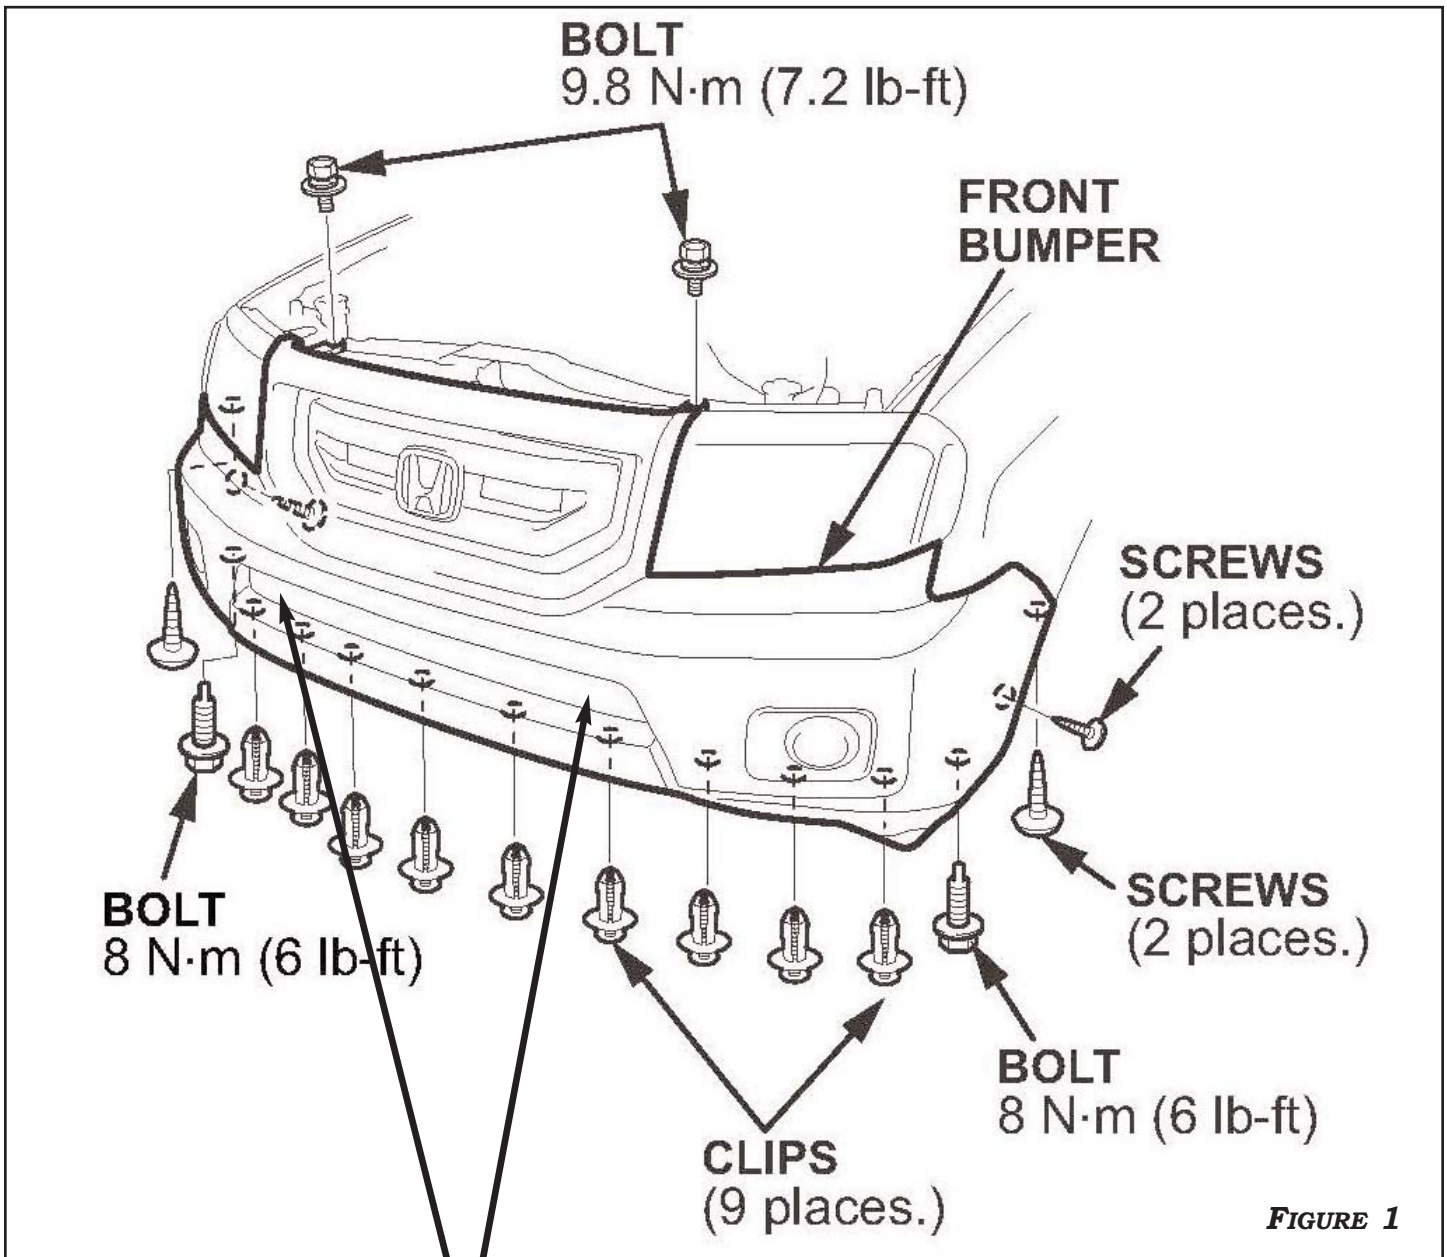

FIGURE 1
2. USING 1 LONG BRACKET PER DRL, MOUNT DRLS IN FRONT OF GRILL WITH BRACKET BEHIND GRILL. MOUNT IN LOCATION SHOWN IN **FIGURES 1 & 2**.